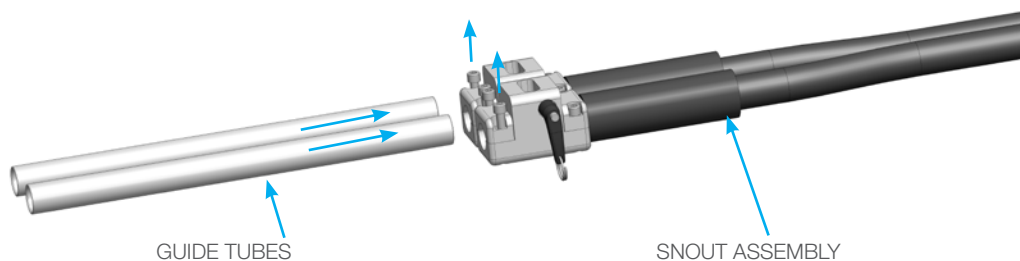

FIGURE 7
1. Loosen the Allen screws and slide the guide tubes into the snout block until they stop. Tighten the Allen screws and pull on the guide tubes to make sure they are secured (**Figure 7**).